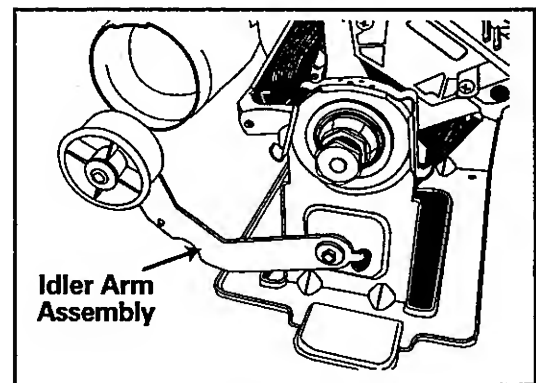

Figure 11-8
5. Unhook idler spring from the base frame and remove the screw securing the assembly to the motor support bracket (*Figure 11-8*).